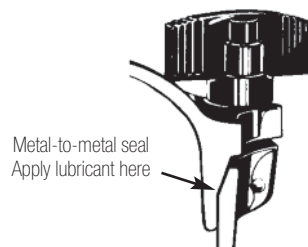

Fig. 1
1. Metal-to-Metal seal (See Fig. 1). We recommend periodically checking the metal-to-metal seal and lubricating as needed. It is extremely important to keep the seal lubricated as failure to do so could cause the cover to stick potentially making it very difficult to remove the cover.